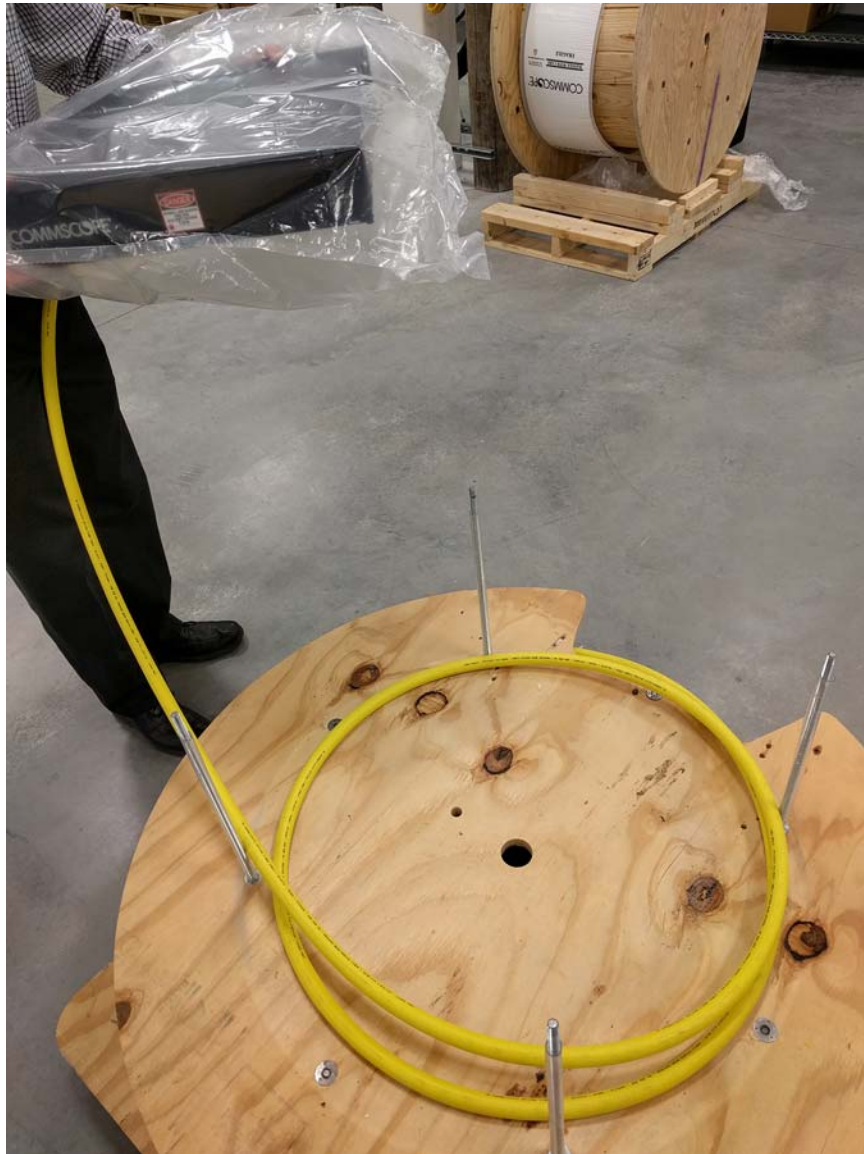

Figure 11. Lifting Off EHD Panel
10. Lift panel off of spool and carefully uncoil remaining cable. Use caution to avoid twisting the cable. Refer to Figure 11.